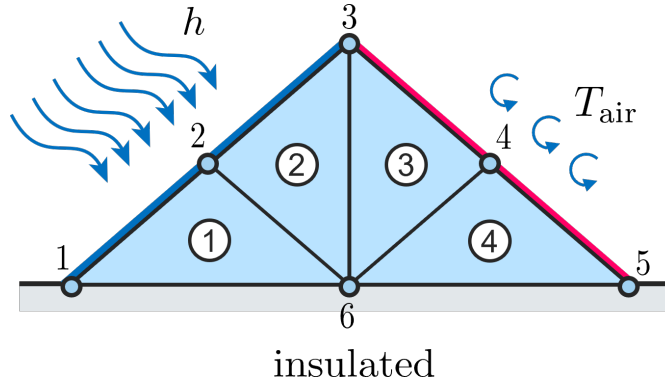

Figure 3: The roof domain in Problem 2 discretized into four elements.
- By discretizing the domain into four elements (see Figure 3) and introducing the linear finite element approximation on the form $T(x, y) \approx \mathbf{N}(x, y) \mathbf{a}$ and using Galerkin's method, the